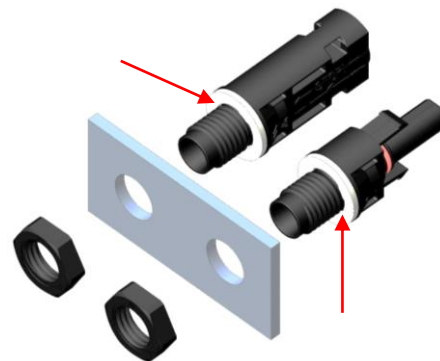

Figure 16
- ✧ 在公/母面板连接器插入钻孔前，请确保已安装防水垫圈，且防水垫圈安装在墙板的外侧(如图 16)
Please ensure seal gasket is located on the insulation before mounting the plastic insulations through the bore. In mounting position, the seal gasket must lie even on the outside of the mounting surface. (Fig.16)